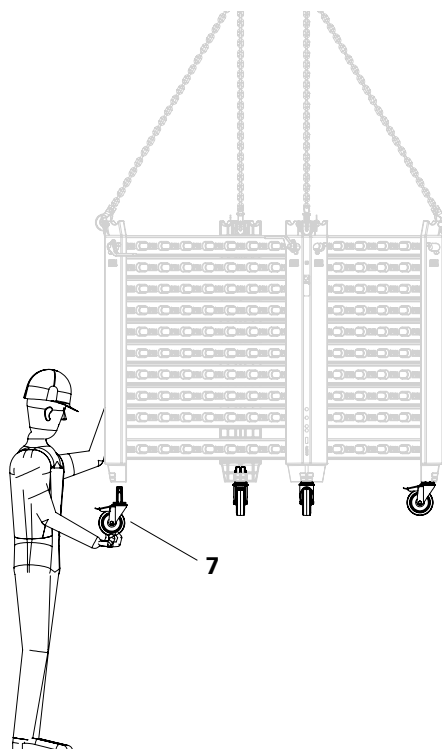

Fig. A1.09
For horizontal transport on the construction site, DUO wheels (7) can be inserted into the underside of the stacking devices. (Fig. A1.09)